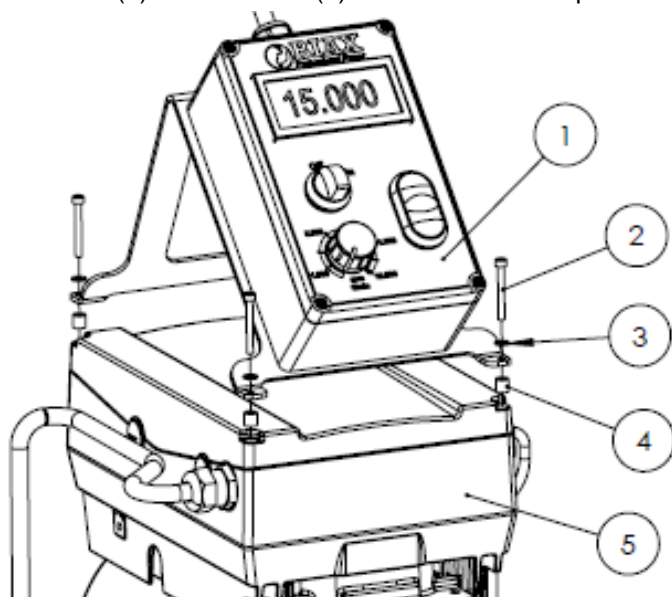

Figure 2: Mounting the operating unit on the drive unit
The operating unit with sheet (1) is fixed on the drive unit (5) at 4 points. For this purpose, the spacers (4) are positioned between the drive unit and the sheet of the operating unit as shown in Figure 2; then they are secured with the cylinder screws (2) and washers (3) included in the scope of delivery.